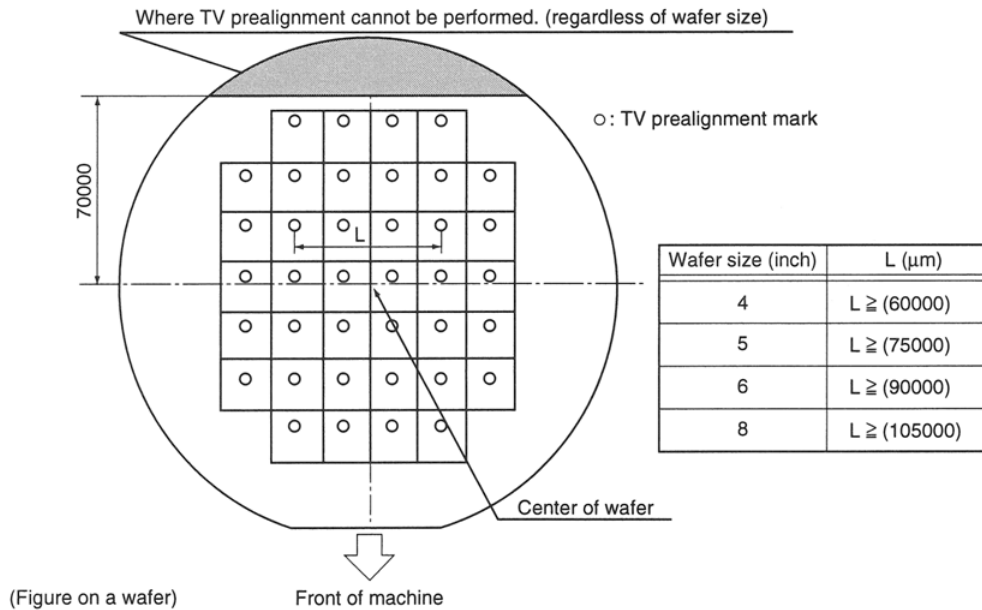

Figure 4: Positions of TV pre-alignment marks on the wafer (dimensions in  $\mu\text{m}$ ). Please note: the measurement system is based on wafer scale
The measurement system used in this guide is based on reticle dimensions. However, sub –clause 2.3, Fig. 4 depicts mark positions on the wafer. Here, the system is based on wafer scale.
It is recommended to equip every chip of the first layer on the wafer with one TVPA mark on a well defined position with respect to the centre of the chip. There are no positional restrictions where to place the particular mark. Two of these marks will be selected from the marks on the wafer for TV pre-alignment. However, the following conditions must be satisfied on the wafer, as shown in Fig. 4:
- 1) The separation between two marks - not necessarily next neighbours - has to be  $\geq L$ , whereas L depends on the wafer size (see Fig. 4)
- 2) Figure 4 shows an area where the TV pre-alignment cannot be performed.